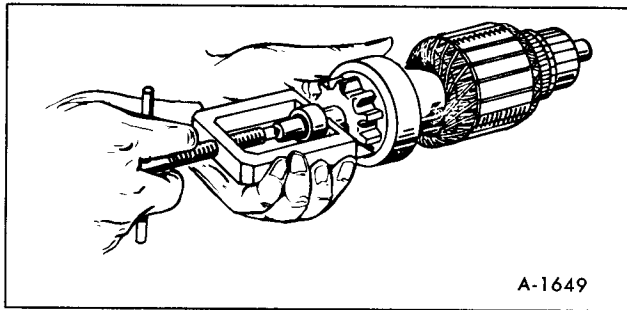

Figure 70—Installing Stop Ring
2. Install the overrunning clutch assembly, the ring and the stop ring on the armature shaft. Drive pinion stopper far enough on shaft to install stop ring. Then using a puller (figure 70) pull stopper against ring.